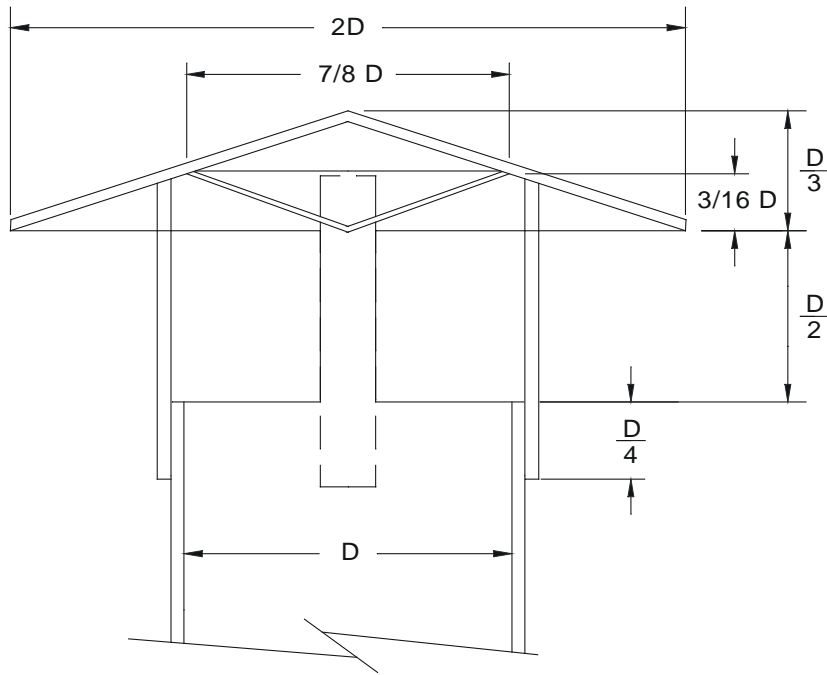

Figure 8. Stack Rain Cone
- 7.10** The stack should be protected against down drafts, back drafts, and rain with a simple flat or cone-shaped cap. (See Figure 8.) Make sure the area between the cap and stack is at least equal to the area of the stack. Protect all steel work from corrosion.